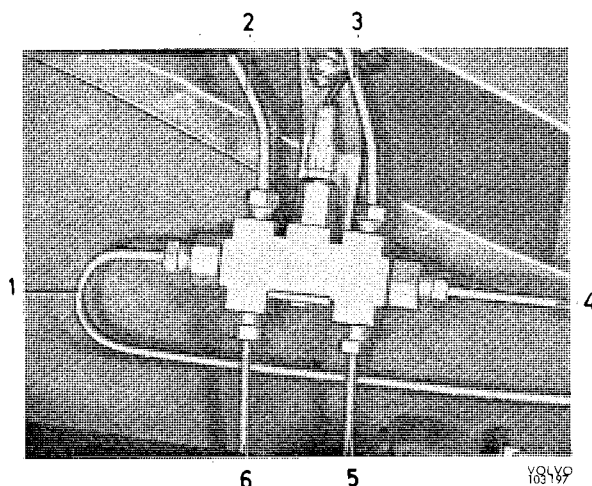

Fig. 5-56. Warning valve installed
2. Install the new valve in reverse order to removal. Fig. 5-56 shows the various connections.